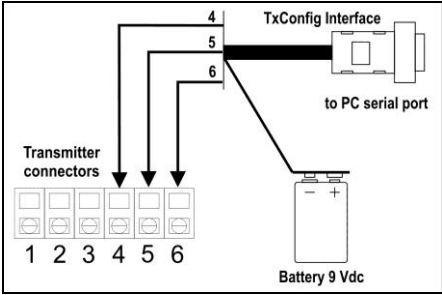
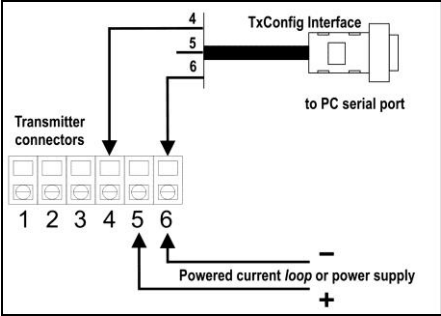

Figure 01 – TxConfig Interface connections model RS232
Figure 04 – TxConfig Interface connections - Powered current loop or power supply
The TxConfig interface connects the transmitter to the PC, as shown in Figures 01 and 02. There are two types of interface: TxConfig-RS232 and TxConfig-USB.
- The TxConfig-RS232 interface, however, requires an auxiliary supply for guarantee reliable communication with the computer. An external 9V battery can be used for this purpose (Figure 01). An alternative is to configure the transmitter while it is in operation; this way, the needed energy is supplied by the current loop. See Figure 04.